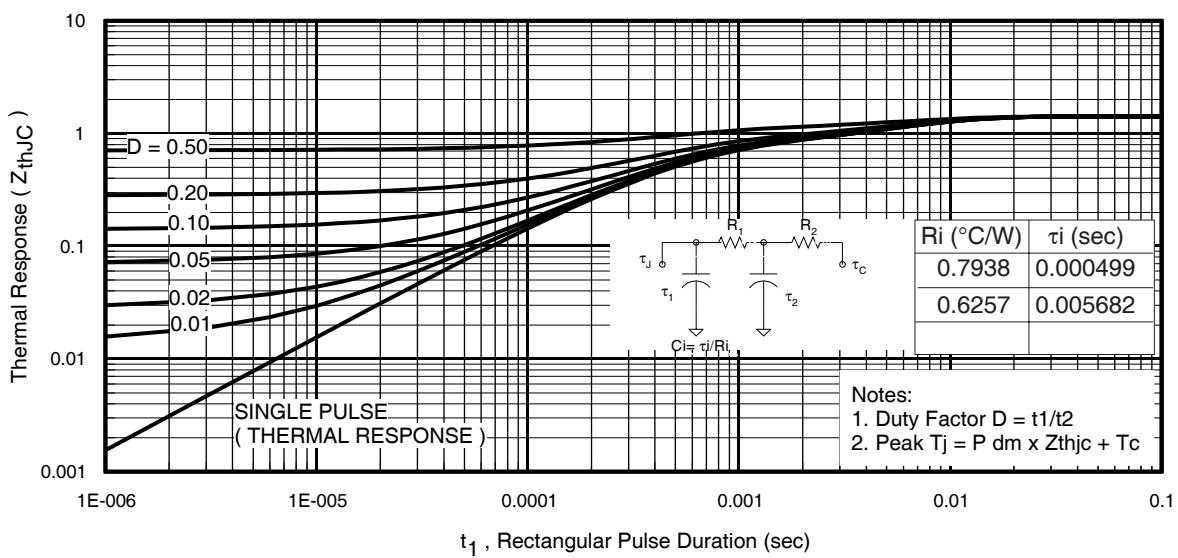
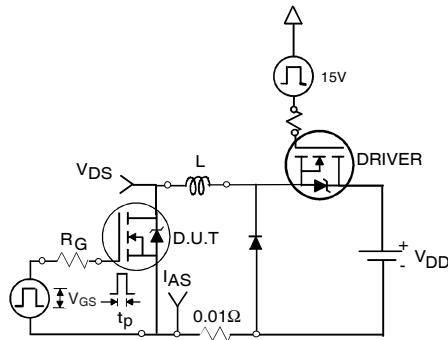

Fig 11. Maximum Effective Transient Thermal Impedance, Junction-to-Case
Fig 12a. Unclamped Inductive Test Circuit
3. Equation below based on circuit and waveforms shown in Figures 12a, 12b.
$Z_{thJC}(D, t_{av})$ = Transient thermal resistance, see figure 11)
- ① Repetitive rating; pulse width limited by max. junction temperature. (See fig. 11).
- ② Limited by T_{Jmax} , starting $T_J = 25^\circ\text{C}$, $L = 0.197\text{mH}$ $R_G = 25\Omega$, $I_{AS} = 32\text{A}$, $V_{GS} = 10\text{V}$. Part not recommended for use above this value.
- ③ Pulse width $\leq 1.0\text{ms}$; duty cycle $\leq 2\%$.
- ④ C_{oss} eff. is a fixed capacitance that gives the same charging time as C_{oss} while V_{DS} is rising from 0 to 80% V_{DSS} .
- ⑤ Limited by T_{Jmax} , see Fig.12a, 12b, 15, 16 for typical repetitive avalanche performance.
- ⑥ This value determined from sample failure population. 100% tested to this value in production.
- ⑦ When mounted on 1" square PCB (FR-4 or G-10 Material). For recommended footprint and soldering techniques refer to application note #AN-994
- ⑧ R_θ is measured at T_J approximately 90°C